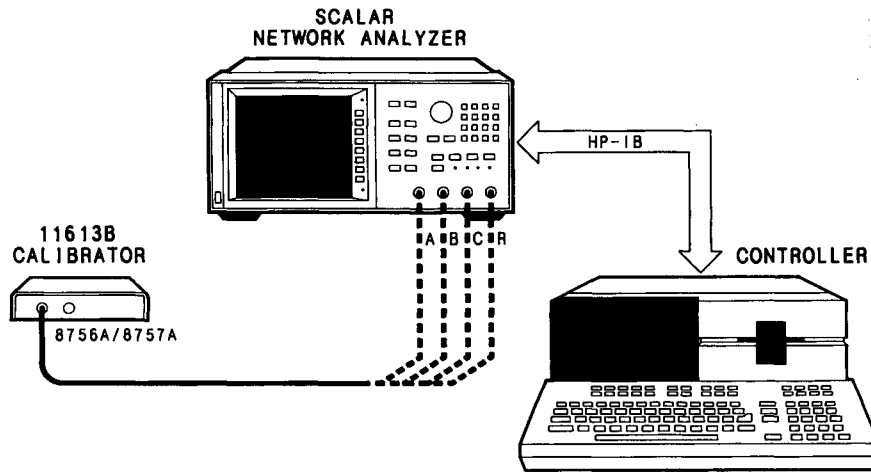

Figure 3-1. HP 8757A Calibration Setup
This section explains how to use the HP 11613B to calibrate and to check the calibration of the HP 8757A scalar network analyzer. Also included is a section on troubleshooting the HP 8757A. Note that NBS traceability of the HP 8757A is confirmed by passing the *Dynamic Power Accuracy* performance test using NBS traceable attenuators as described in the *HP 8757A Operating and Service Manuals*. This section also describes the procedure to check the calibration identification information of each HP 8757A input. Much of the information which would normally appear in this section resides in the software supplied with the calibrator itself. Thus to operate the calibrator, you need only connect it as shown in Figure 3-1 and respond to the CRT prompts.
1. Connect the equipment as shown in Figure 3-1 and allow one hour for warm-up of the network analyzer. Observe the operating temperature limits. During this time, leave all of the covers of the HP 8757A on.